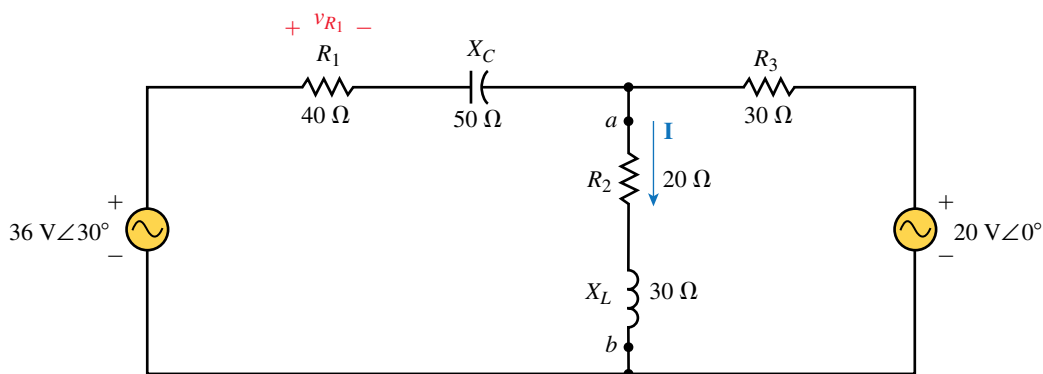

FIGURE 20–72
7. Use superposition to determine the current $\mathbf{I}$ in the circuit of Figure 20–72.
8. Repeat Problem 7 for the circuit of Figure 20–73.